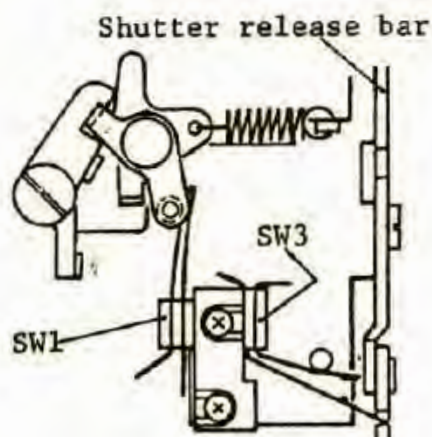

Fig. 60
2) While depressing the shutter release button, the SW3 is OFF by the shutter release bar as shown in Fig. 60.